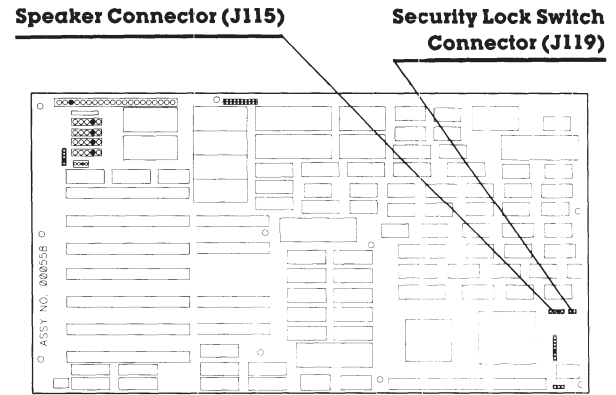

Figure 7-32. Location of the Speaker Connector and Security Lock Switch Connector.
4. Locate and disconnect the speaker connector (J115) and security lock switch connector (J119) from the system board (see Figure 7-32).